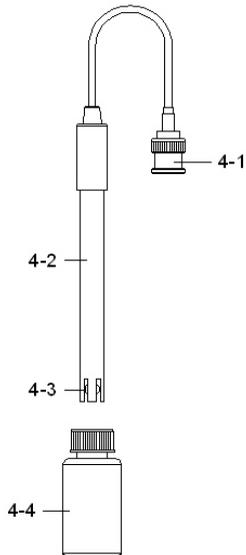

Fig. 2
- 1) Prepare the PH Electrode ( optional ), install the " Probe Plug " ( 4-1, Fig. 2 ) into the " PH Socket/BNC Socket " ( 3-16, Fig. 1 ).
- 4) Hold the " Electrode Handle " ( 4-2, Fig. 2 ) by hand and let the " Sensing head " ( 4-3, Fig. 2 ) immersed wholly into the measured solution and little shake the probe.
**When not use the Electrode, it should immerse the " Electrode sensing head " ( 4-3, Fig. 2 ) into the " Protection bottle " ( 4-4, Fig. 2 )**